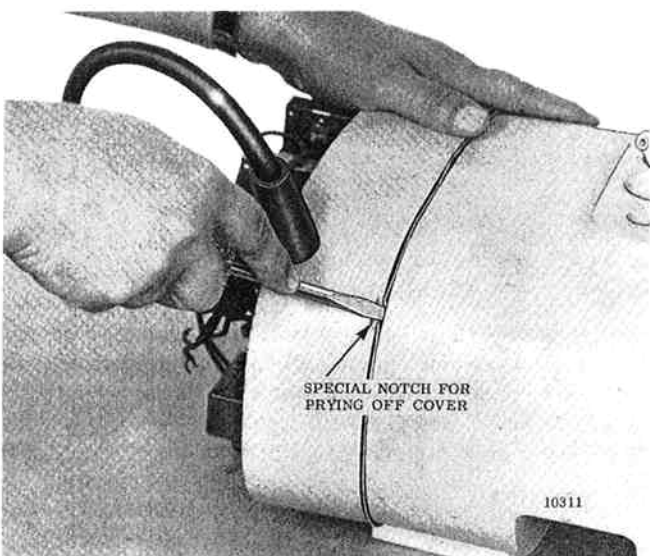
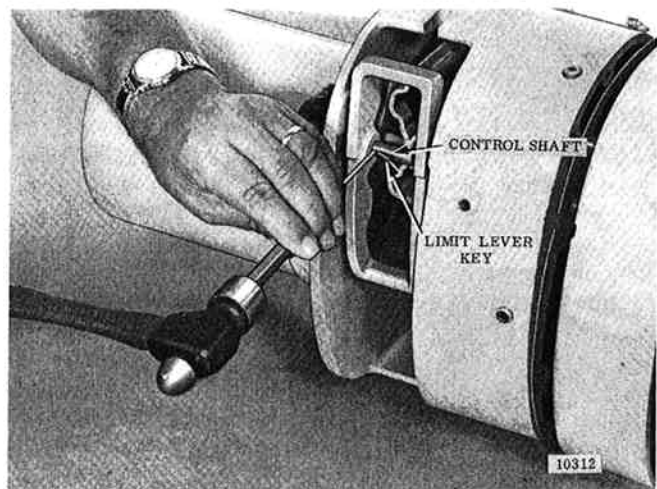
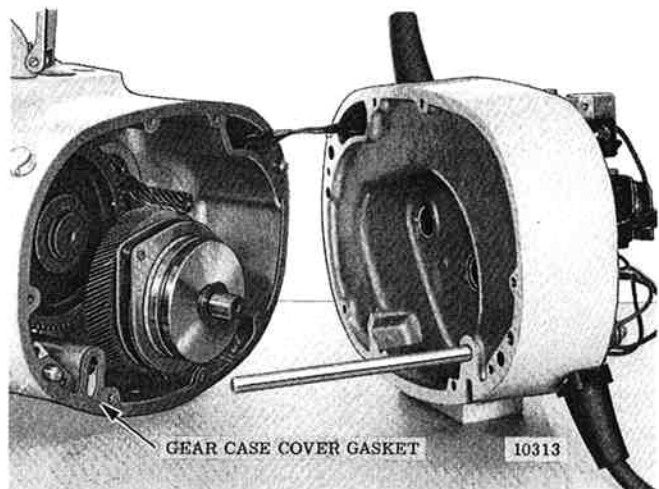

Figure 7-4. Prying Gear Case Cover From Hoist Frame.
Figure 7-5. Removing Limit Lever Key From Control Shaft.
Figure 7-6. Gear Case Cover With Electrical Controls Removed From Frame.
(3) Disconnect power supply flexible cable leads from terminals of contactor. Remove screw attaching ground leads to gear case cover and pull flexible cable and grommet from slot in cover.
(4) Disconnect motor leads from electrical control units. Number of leads depends on type of motor. (See wiring diagrams in Section VIII).
(5) Remove eight hex socket head screws and lockwashers securing gear case cover to hoist frame. Pry gear case cover partially off hoist frame using screw driver at special notches provided at opposite corners of cover (fig. 7-4) to provide access for removing limit lever key from control shaft. Tilt Woodruff key in shaft slot using drift punch (fig. 7-5) and pull out using pliers. Gear case cover with electrical controls attached can now be lifted from frame (fig. 7-6). Limit lever will drop free of frame as shaft is removed with cover. Discard gear case cover gasket.